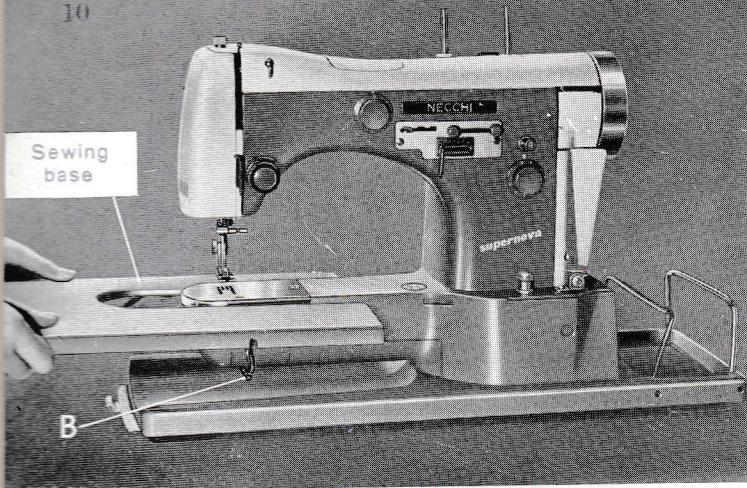

Fig. 1
- Prepare the sewing base so that the two attachments A (Fig. 2) are slightly bent and collar B is turned towards the bottom (Fig. 1).
- Place the sewing base next to the machine base as shown in Fig. 1.